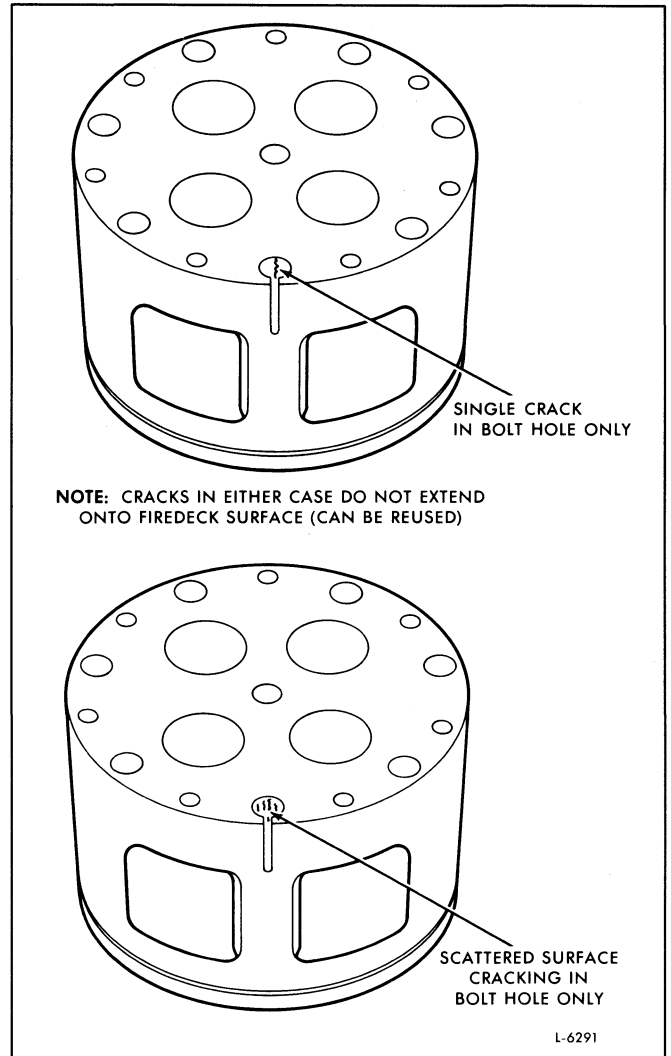

Fig. 9 - Bolt Hole Crack (Head Reusable)
1. The head is cracked in the bolt hole only and the crack does not extend onto the firedeck surface (Fig. 9).